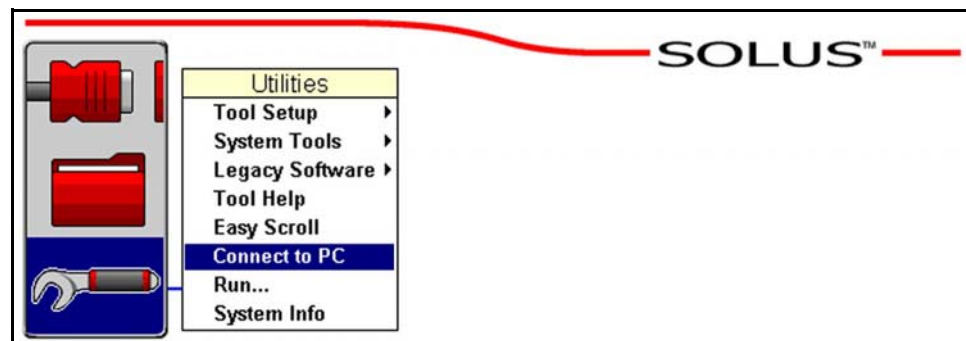

Figure 4-26 SOLUS utilities menu
2. From the Main Menu, navigate to **UTILITIES > Connect to PC** (Figure 4-26).